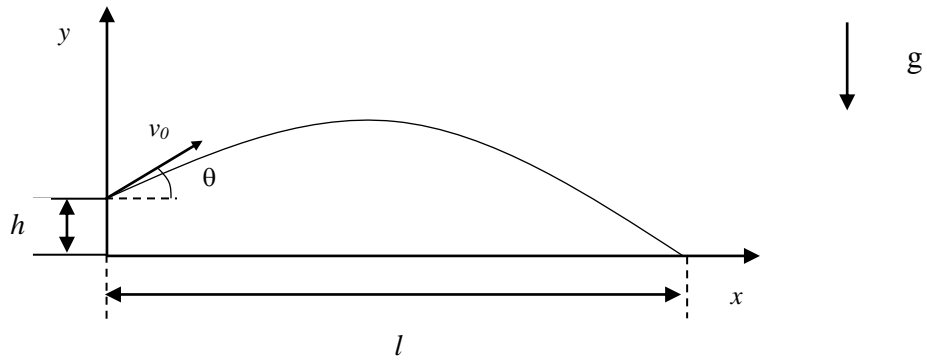

Figure 2.1: The shot put attempt
- Formulate the equations for the projectile motion; acceleration, velocity and distance as functions of time  $t$  for the  $x$ - and  $y$ -direction, respectively, see the list below. Make sure to include initial values ( $t=0$ ) in the equations. Let the initial values in the equations for the particle motion be consistent with Figure 2.1. The magnitude of the initial velocity is denoted  $v_0$ . The gravitational acceleration is denoted  $g$  and defined in the direction according to Figure 2.1.
- Combine the equations above to formulate an expression for the length  $l$  as a function of the elevation angle  $\theta$  (see Figure 2.1). The expression for the length  $l(\theta)$  may include the quantities  $\theta$ ,  $v_0$ ,  $h$  and  $g$ , *please observe – not time  $t$* .
Make a design study on how the length  $l$  (see Figure 2.1) depends on the elevation angle  $\theta$ .